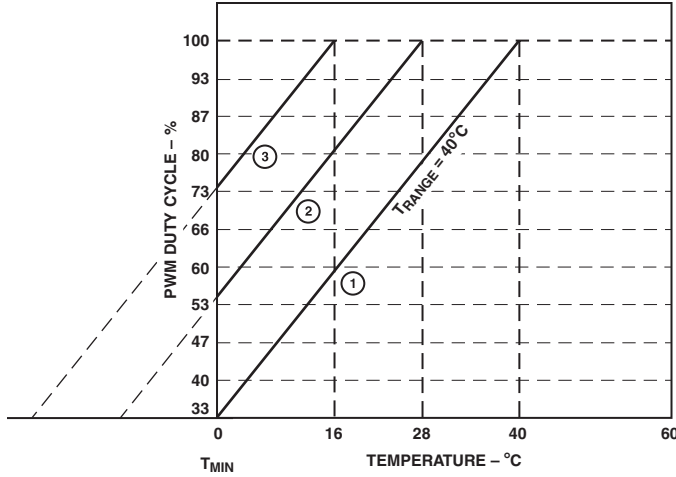

Figure 10. Effect of Changing Minimum Duty Cycle on Control Loop with Fixed  $T_{MIN}$  and  $T_{RANGE}$  Values
Slope 1 of Figure 10 shows  $T_{MIN}$  set to 0°C and the  $T_{RANGE}$  chosen is 40°C. In this case, the fan's PWM duty cycle will vary over the range 33% to 100%. The fan will run full-speed at 40°C. If the minimum PWM duty cycle at which the fan runs at  $T_{MIN}$  is changed, its effect can be seen on Slopes 2 and 3. Take Case 2, where the minimum PWM duty cycle is reprogrammed from 33% (default) to 53%.
**$T_{MAX}$  = 28°C** (As seen on Slope 2 of Figure 10)
**$T_{MAX}$  = 16°C** (As seen on Slope 3 of Figure 10)
**$T_{MAX}$  = 40°C** (As seen on Slope 1 of Figure 10)